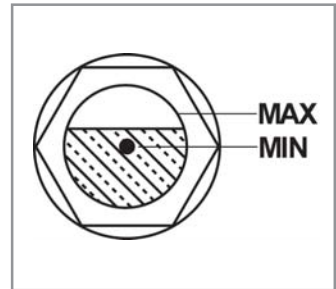

Figure 4
- 1 Check the sight glass, and ensure the oil level is between the min and max mark. See figure 4.